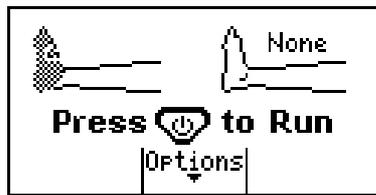

Figure 15 - Only One Garment Connected
2.3.3 Figure 15 shows a foot garment connected to one hose set assembly, and no garment connected to the other.